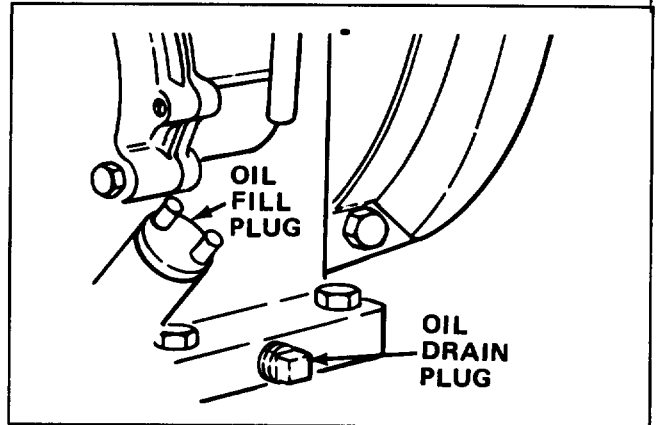

Figure 15
## CHANGING OIL (Fig. 15)
3. While holding front of edger up slightly, remove oil fill and drain plugs (Fig. 15). Slowly tip forward and empty all oil into drain pan. Tip up and down several times to ensure oil drains completely.